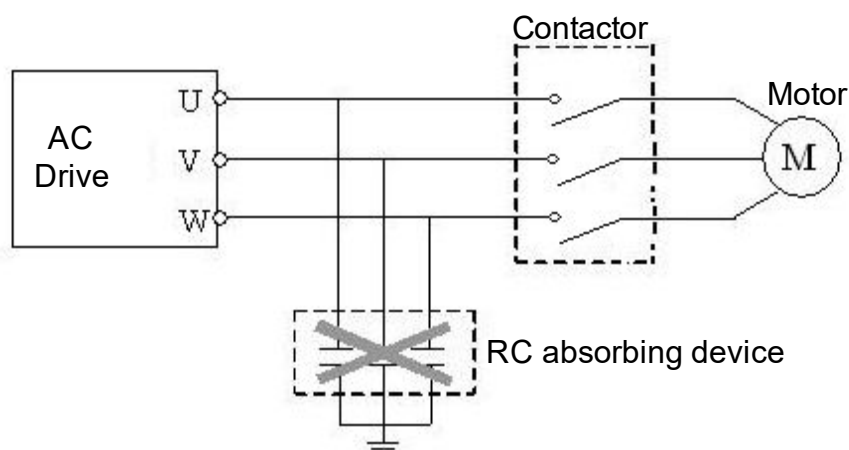

Figure 4-1 Output terminals can not be added with RC absorbing device
- (1) The wiring must be carried out by qualified technicians.
- (2) Before wiring, make sure that the power supply has been completely turn off more than 10 minutes; otherwise there is the risk of electric shock.
- (3) It is prohibited to connect the power wire to the inverter output terminals U, V, W.
- (4) The inverter and the motor must be firmly grounded.
- (5) Ensure that there is an intermediate circuit breaker between the inverter and the power supply to avoid accidents to expand in case of inverter failure.
- (6) When a magnetic contactor is installed between the inverter and the motor, the timing of the contactor action should be guaranteed, the contactor can act only when the inverter has no output.
- (7) As shown in Figure 4-1, the inverter U, V, W output terminals can not be added with capacitor absorbing or other RC absorbing device.